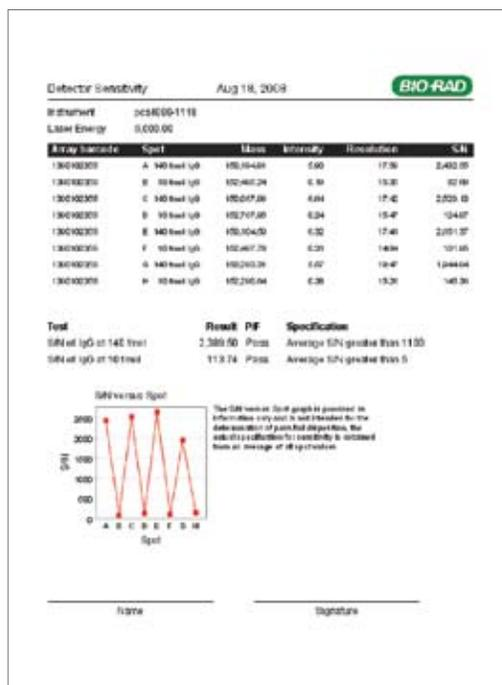

Fig 4. OQ report rapidly qualifies instrument performance.
As with any scientific study, the calibration of the platform must be monitored closely at regular intervals to ensure maximum reproducibility. The software works in conjunction with ProteinChip operational qualification (OQ) kits to provide calibration results for the ProteinChip SELDI reader from a single mouse click. The software automates the application of necessary processing parameters, labels the required peaks, and generates a PDF report of the results (Figure 4).